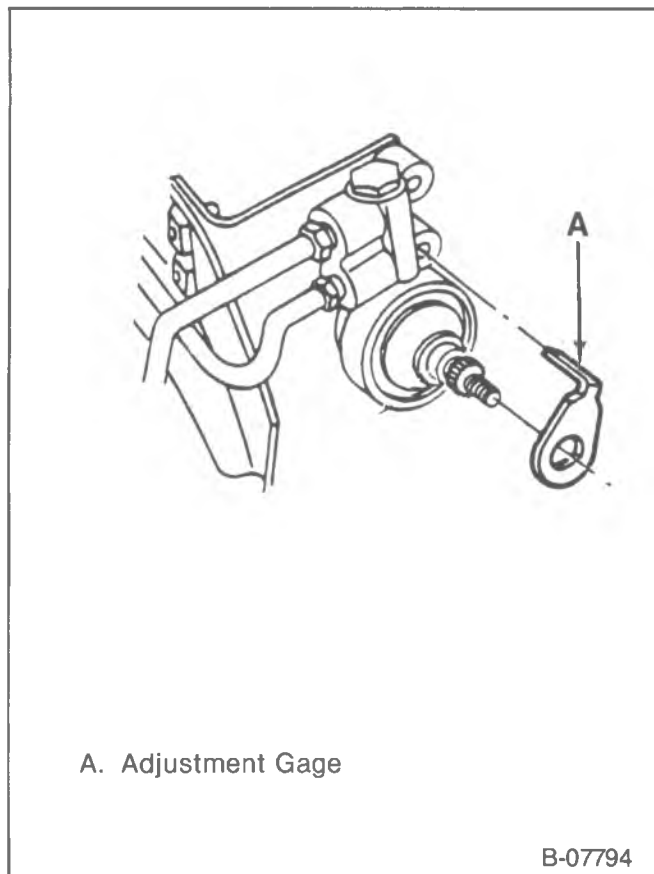

Figure 10—Installing Adjustment Gage
4. Rotate the valve shaft to permit the installation of the adjustment gage (figure 10).